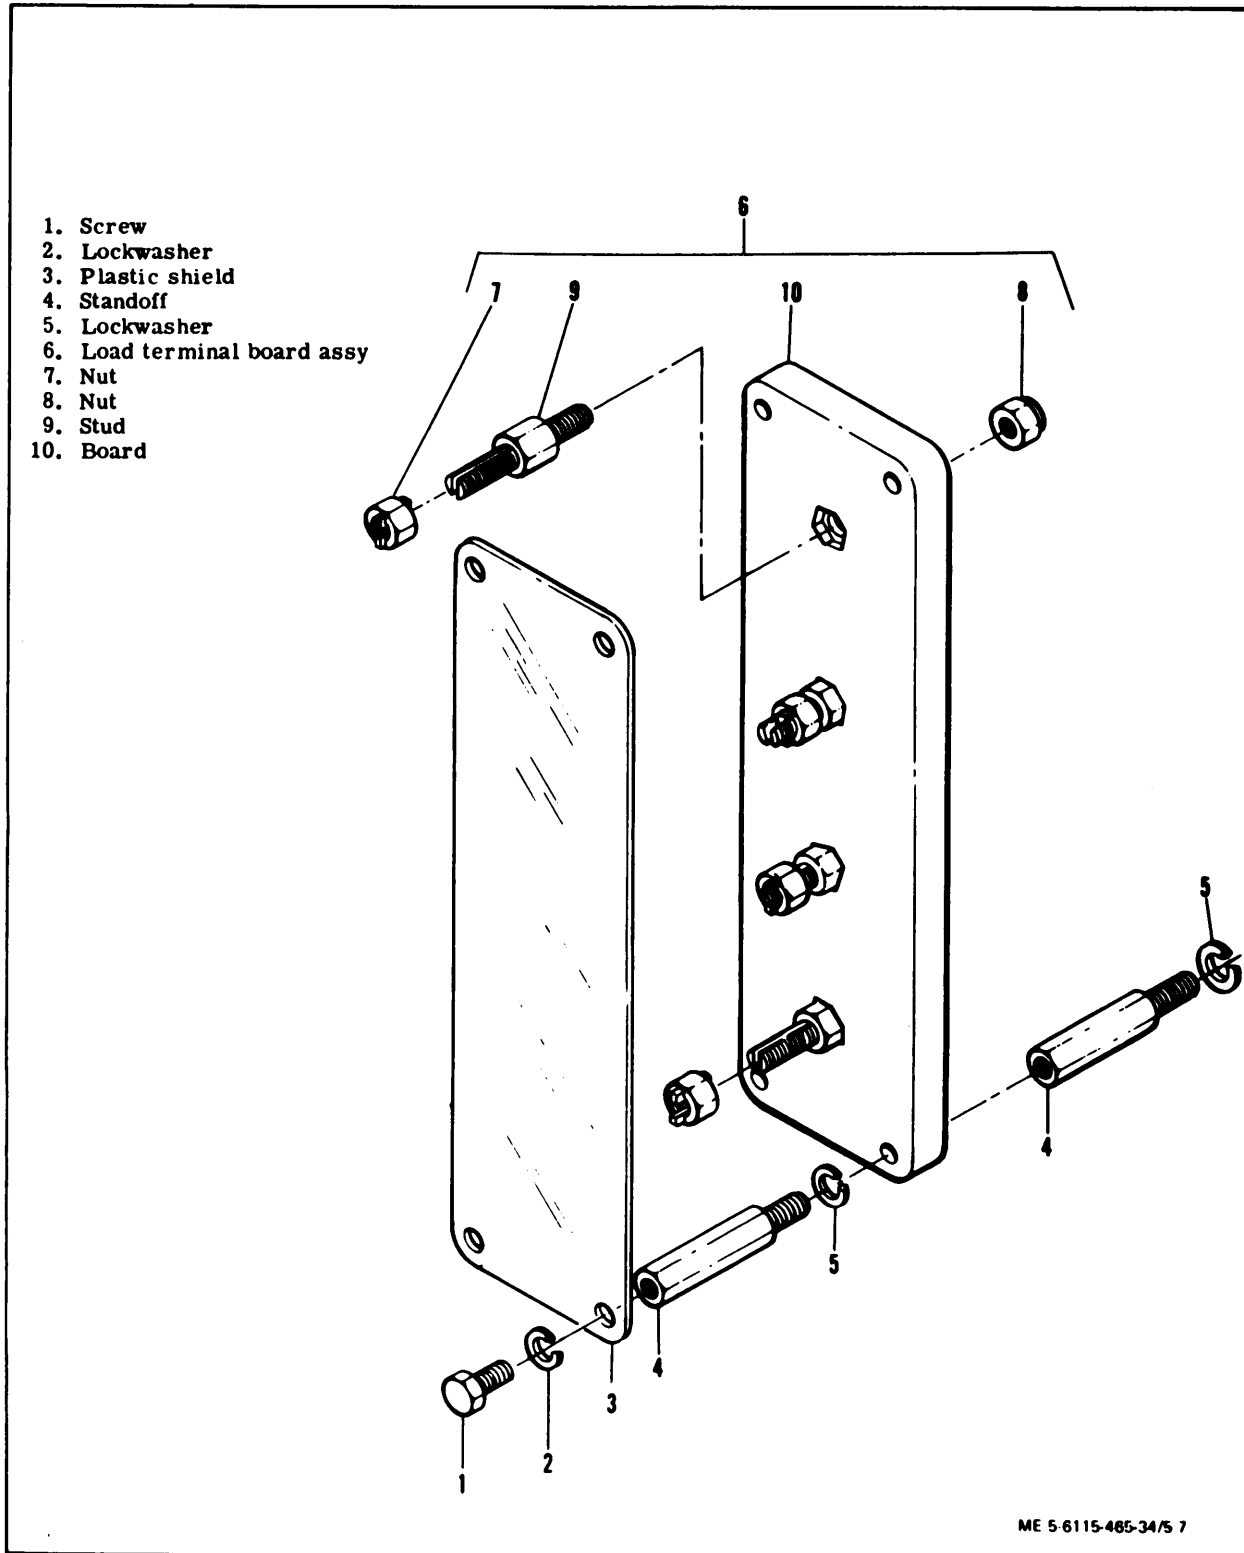

Figure 5-7. Load Terminal Board Assembly, Exploded View
(1) Tag and disconnect electrical leads to load terminal board assembly.
(2) Remove screws (1, figure 5-7), lockwashers (2) and plastic shield (3).
(3) Remove stand-off (4) and lockwashers (5) to remove load connection terminal board assembly (6).
7 through 10, figure 5-7) only as required to replace defective parts during inspection procedures.